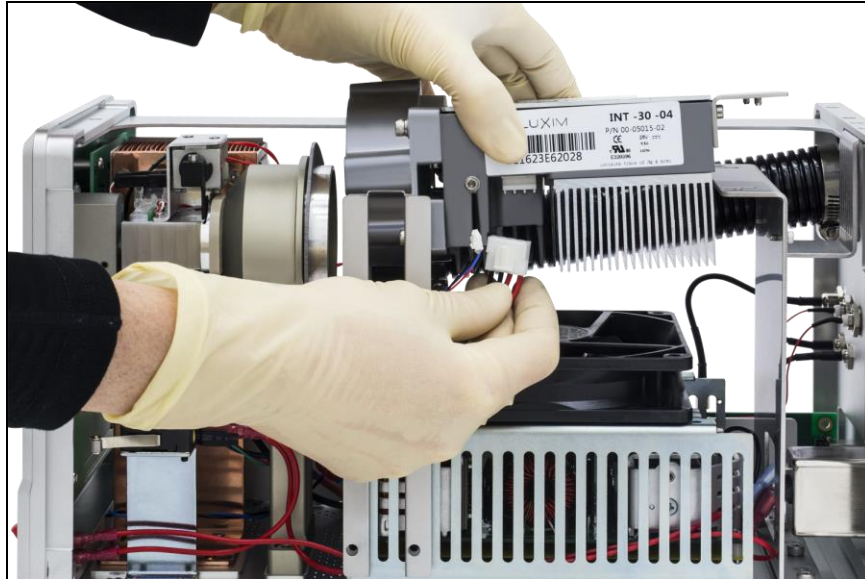

Figure 23 Disconnect the Larger Connector
2. Connect the large cable beneath the bulb module first, as shown in Figure 23.